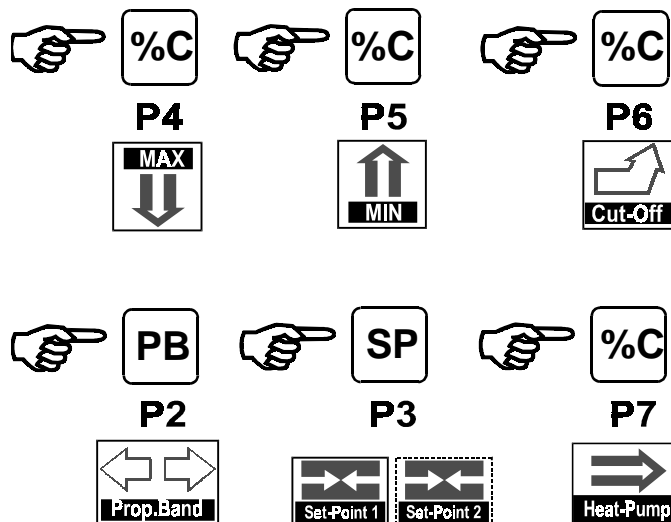

fig. 28
N.B.: it is possible to read the work parameters by connecting the **HELP1** portable display unit; press the keys as shown in **fig. 28** to display the readout of the value set with the calibration trimmers.